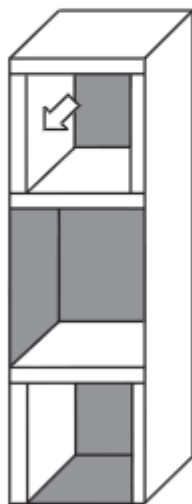

fig. 5
- Install the TUF-COTE® TBK Faced Foam to the inside of the housing and over the vibration control tape (fig. 5).